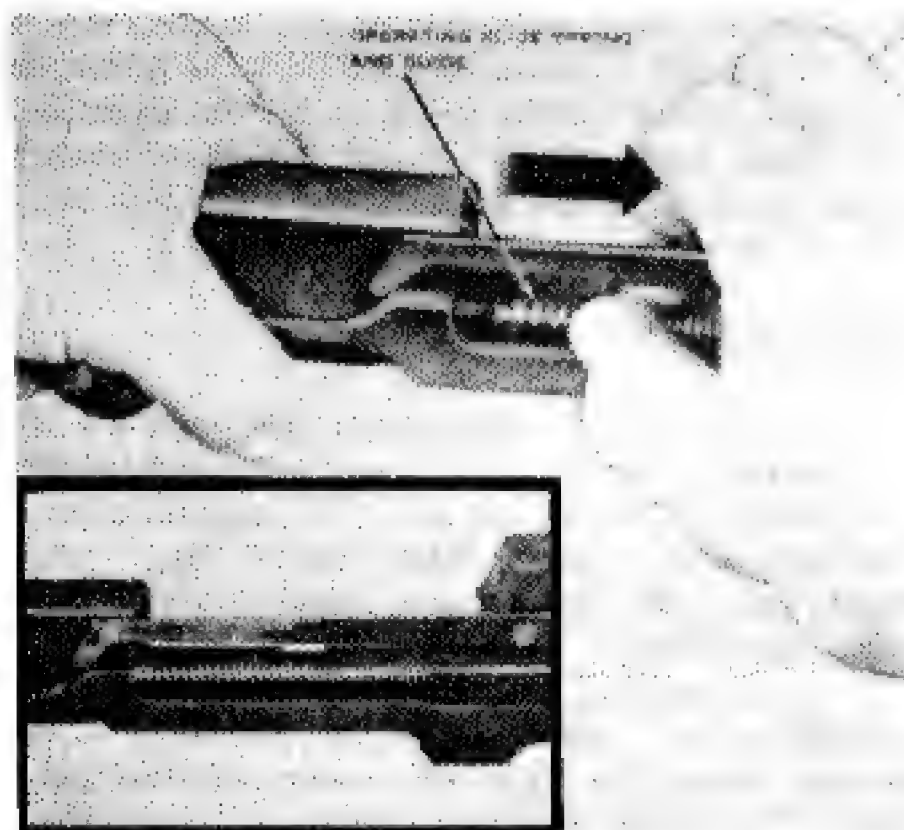

Figure 7. Removing the operating slide spring and guide.
f. Place the barrel and receiver group on a level surface with the muzzle pointing to the left, sights down. With the right thumb and forefinger, pull the operating slide spring and guide to the rear, unseating the operating slide spring guide from its well in the receiver (Fig. 7). Remove the operating slide spring and guide and separate the two parts. The operating slide spring guide will be used as a tool in further disassembly.